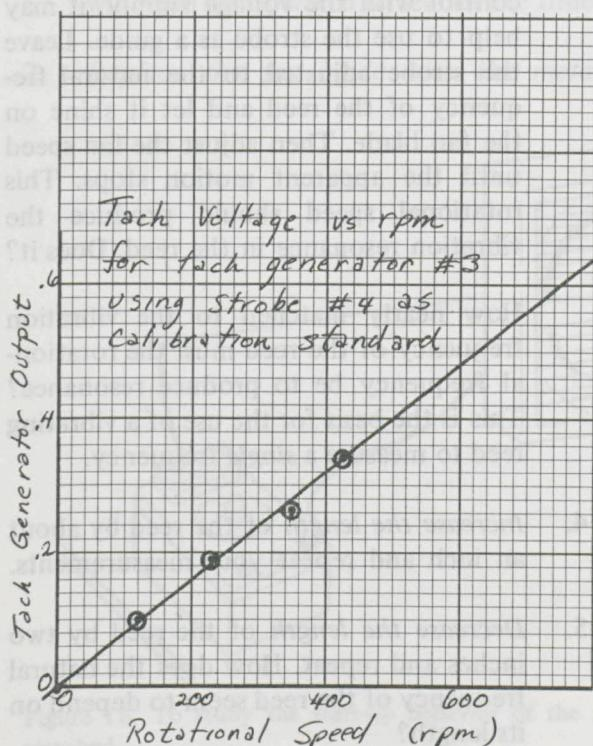

Figure 14. Typical scales to use when making your calibration graph. The graph should be clearly titled.
1. Select convenient scales for each axis so that they are easy to read (for example, 10 divisions equals 100 rpm) and so that the range of your data fills the paper as nearly as possible. See Figure 14.